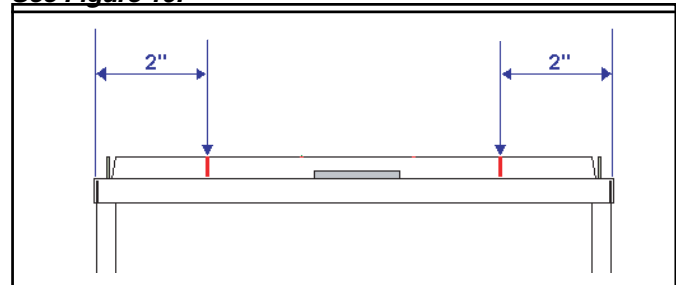

Figure 19 Duct Flanges
**NOTE: Cut the front duct flange 2" from each side and fold flat to clear the Power Door latches. Some applications may require a transition for piping clearances. See Figure 19.**